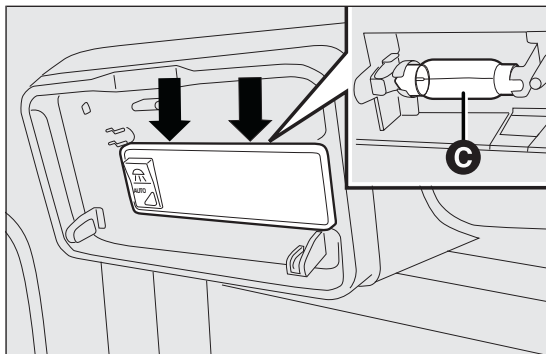

fig. 155
- ☐ change the bulb C fig. 155 by releasing it from the side contacts and making sure the new bulb is correctly fastened between these contacts;